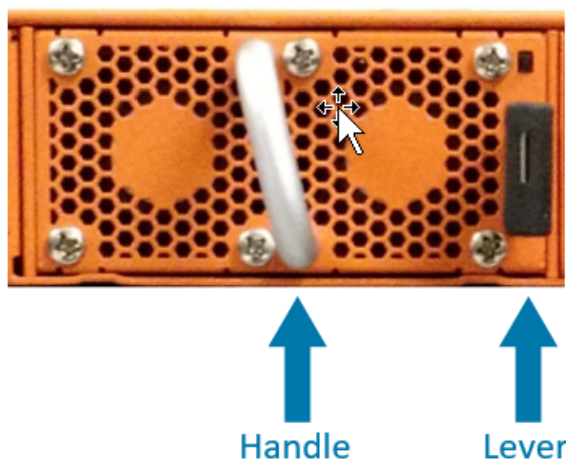

Figure 11 Replacing a Fan (GigaVUE TA Series-TA400 Shown)
1. Locate lever and handle as shown in Figure 11 Replacing a Fan \(GigaVUE TA Series-TA400 Shown\).